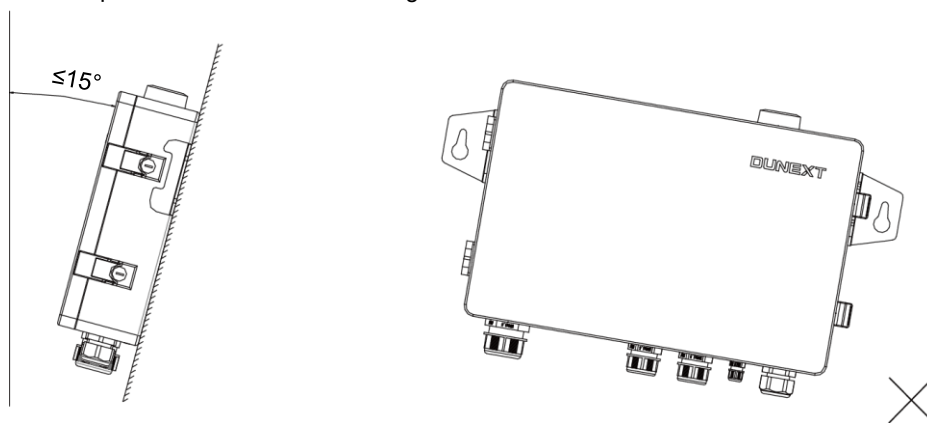

Figure 5-3
- The EMB-100 must be installed vertically or with a backward tilt of less than 15°. No sideways tilt is allowed. The connection area must point downwards. Refer to Figure 5-3.